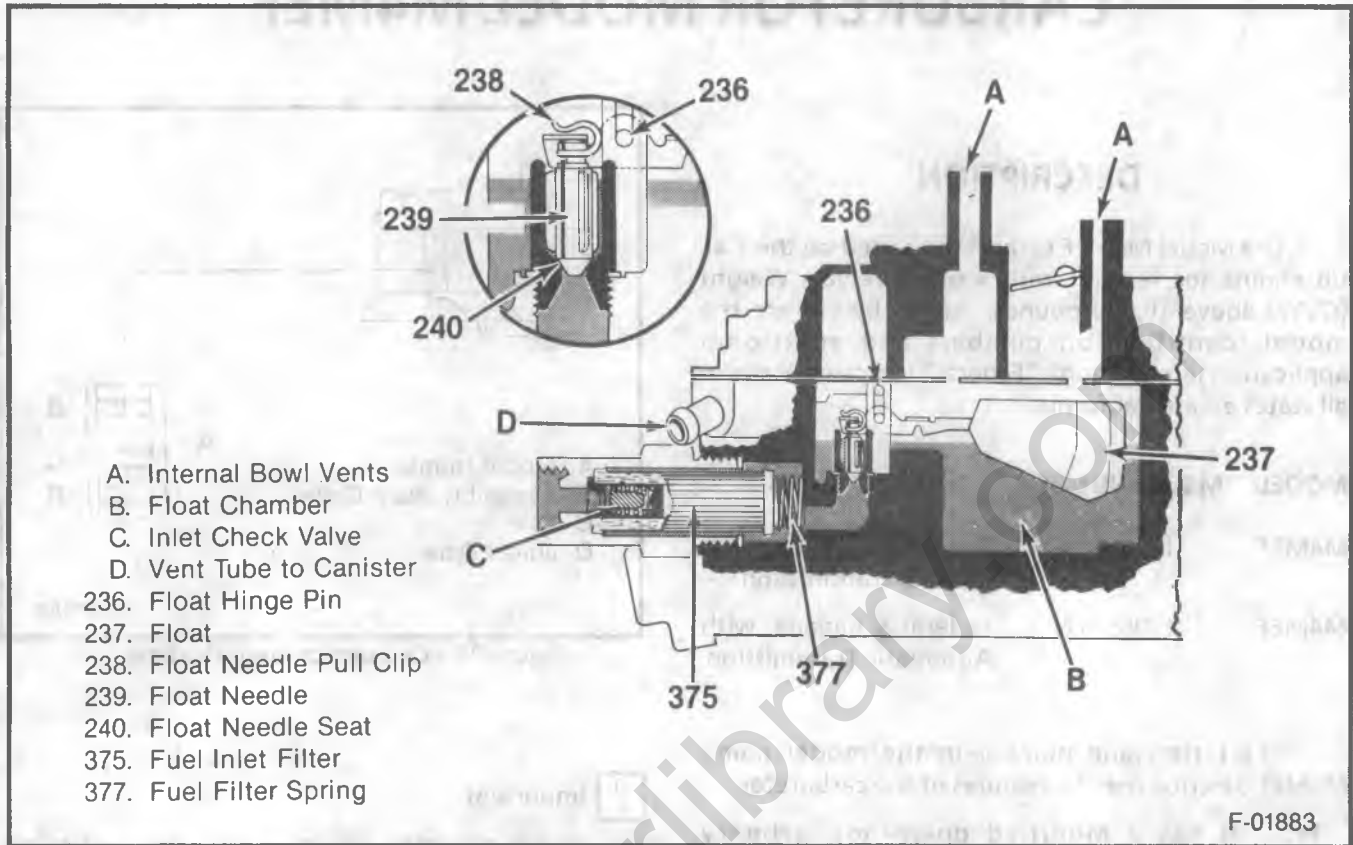

Figure 27 - Float System
Model M4MEF is a four barrel, two stage carburetor, with three major sub-assemblies: the air horn, float bowl and throttle body. It has six basic operating systems, shown in Figures 27 through 32:
- Figure 27 Float